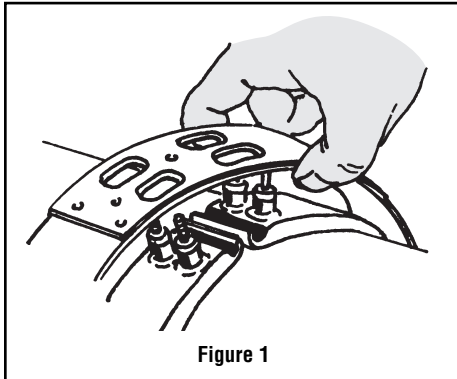

Figure 1
1. Position slots in clamping band over terminal posts on heating elements. **Note:** Terminal hardware must be removed to allow clamping band slots to fit over terminal posts (Figure 1).
between heating element and cylinder and that there is electrical clearance between the heater terminals and the clamping band (Figure 1).